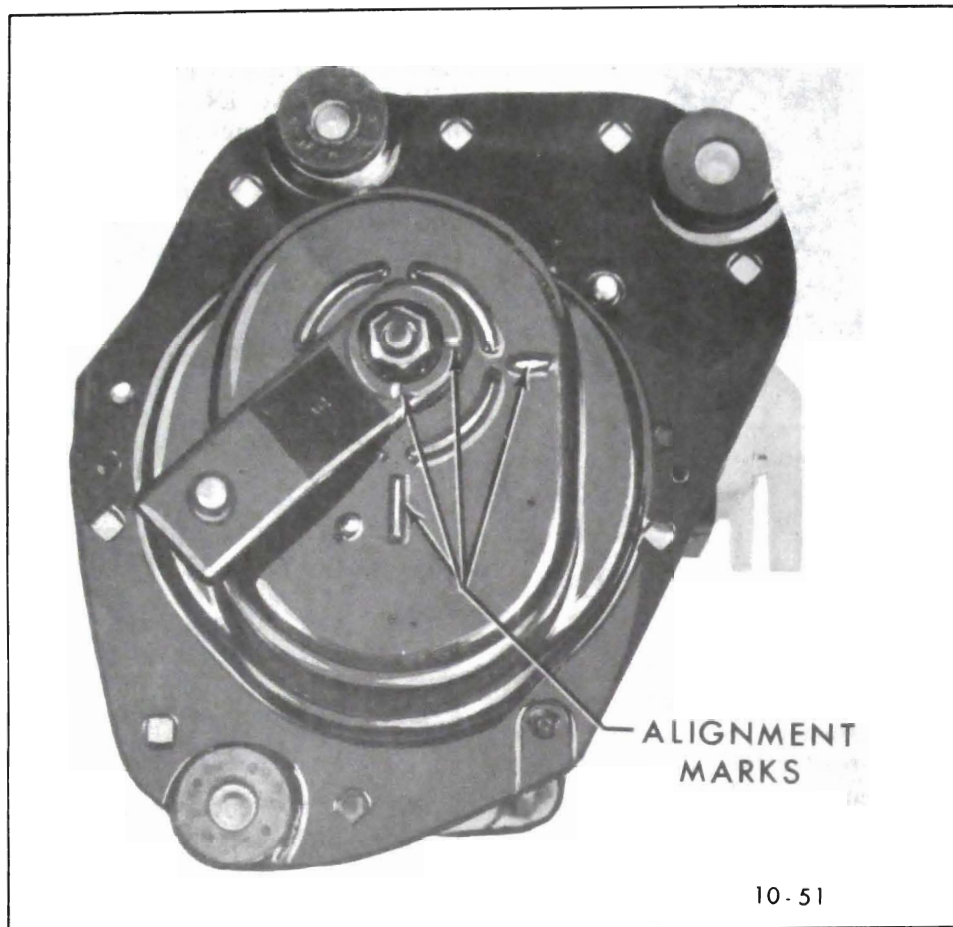

Figure 10-14 - Install Crank Arm on Motor
4. Operate wiper motor to park position and install crank arm as shown in Figure 10-14. CLAMP CRANK ARM IN A VISE and tighten retaining nut to 80 lb. in.